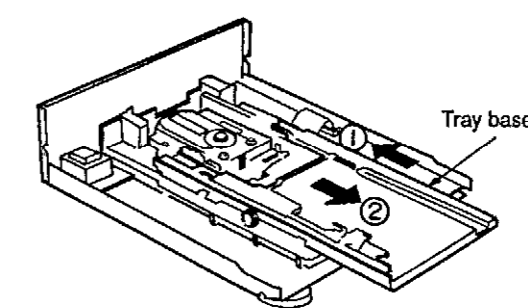

Fig.2
3. After sliding the tray base in the direction of arrow ①, draw the tray base gradually in the direction of arrow ②. (See Fig. 2) Slide the tray base until the tray base stops.